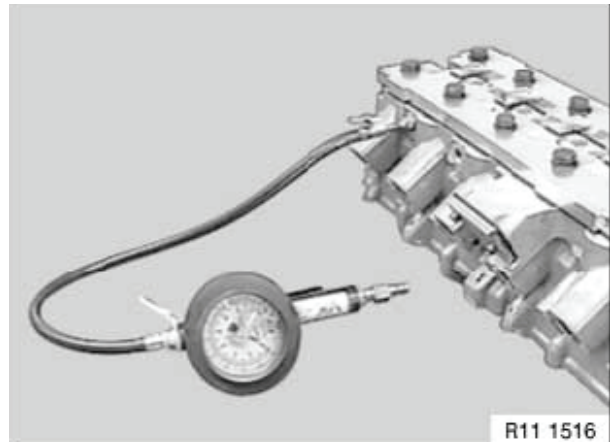

Figure 5-26
3. Connect air source to cylinder head and immerse in water bath. Apply pressure and adjust to 4.5 bar (65 psi) (**Figure 5-26**).